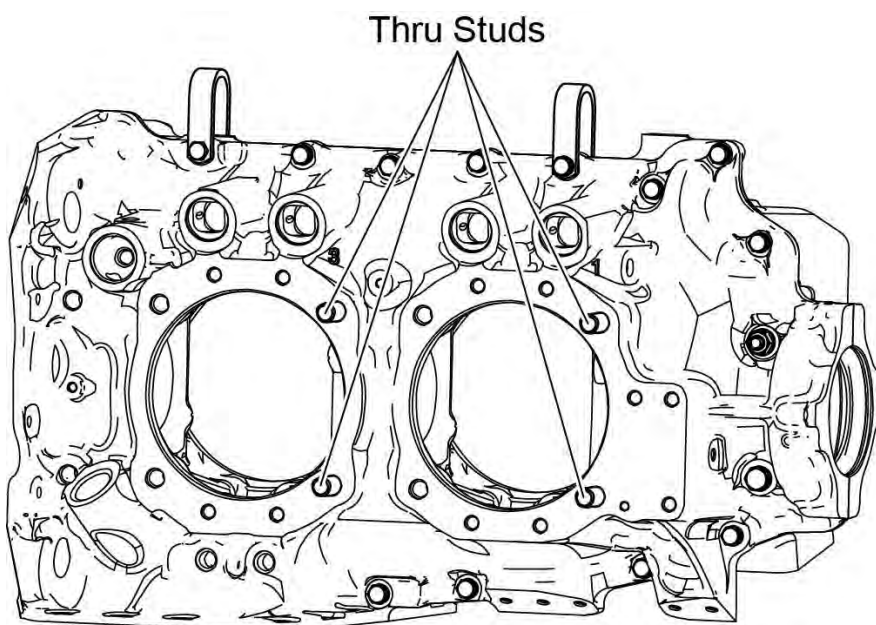

Figure 2
- C. Use a slide hammer, a crankcase thru-stud puller ST-271 or crankcase thru stud driver ST-317 or a plastic hammer to remove the four thru-studs from the crankcase (Figure 2).